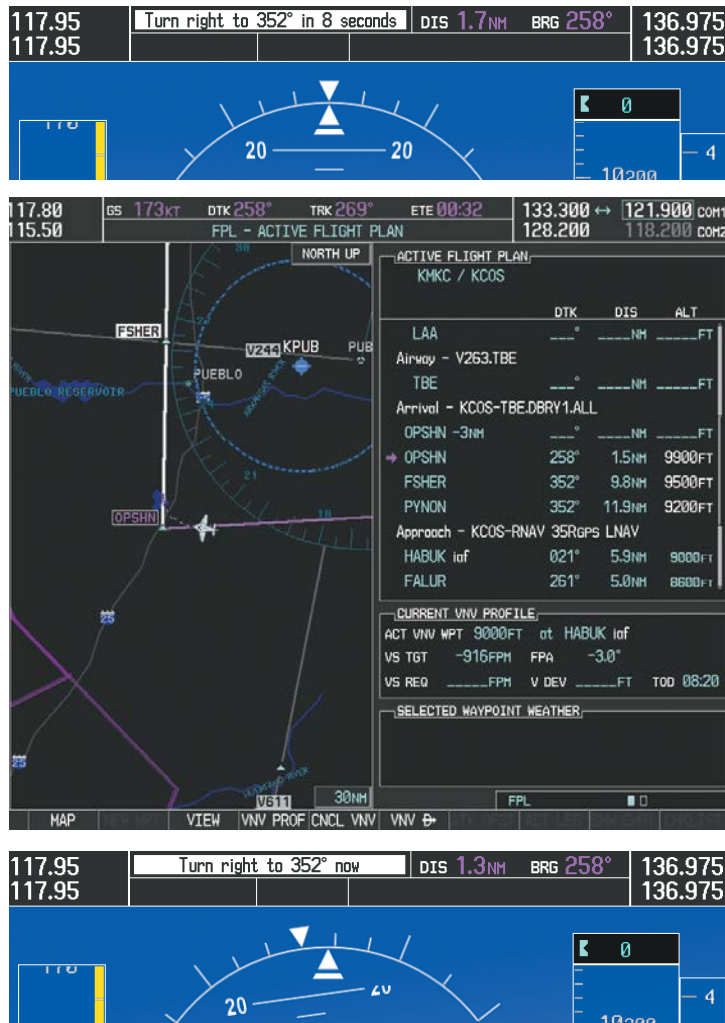

Figure 5-135 Turn to intercept OPSHN to FSHER Leg
- 18) The aircraft is approaching OPSHN. The upcoming turn and next heading are announced at the top left of the PFD as seen in Figure 5-135. Initiate the turn and maneuver the aircraft on a track through the turn radius to intercept the magenta line for the OPSHN to FSHER leg and center the CDI.